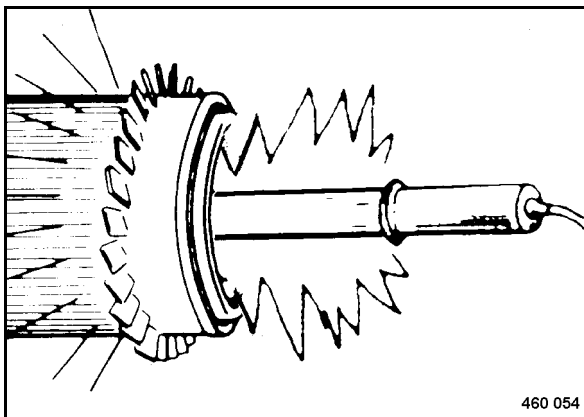

Fig. 91
- Use a torch to examine the dry air filter (Fig. 91) from inside for any holes, cracks, grooves and damage.